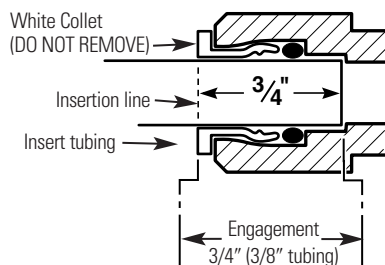

Fig. 9
4. Push the tubing firmly into each fitting on the manifold until the line is flush with the fitting collar. (If the tubing is removed, re-cut the end, measure, mark and re-insert). Tubing must be fully inserted to avoid leaks (Fig. 9). (To remove tubing, depress and hold white collet; pull tubing out to remove.)